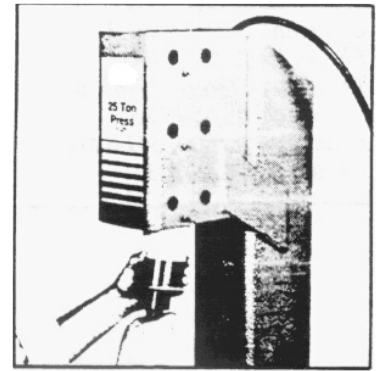

FIG. 3
6. Lower the ram assembly into the press frame until it rests on the support screws (see FIG. 3).